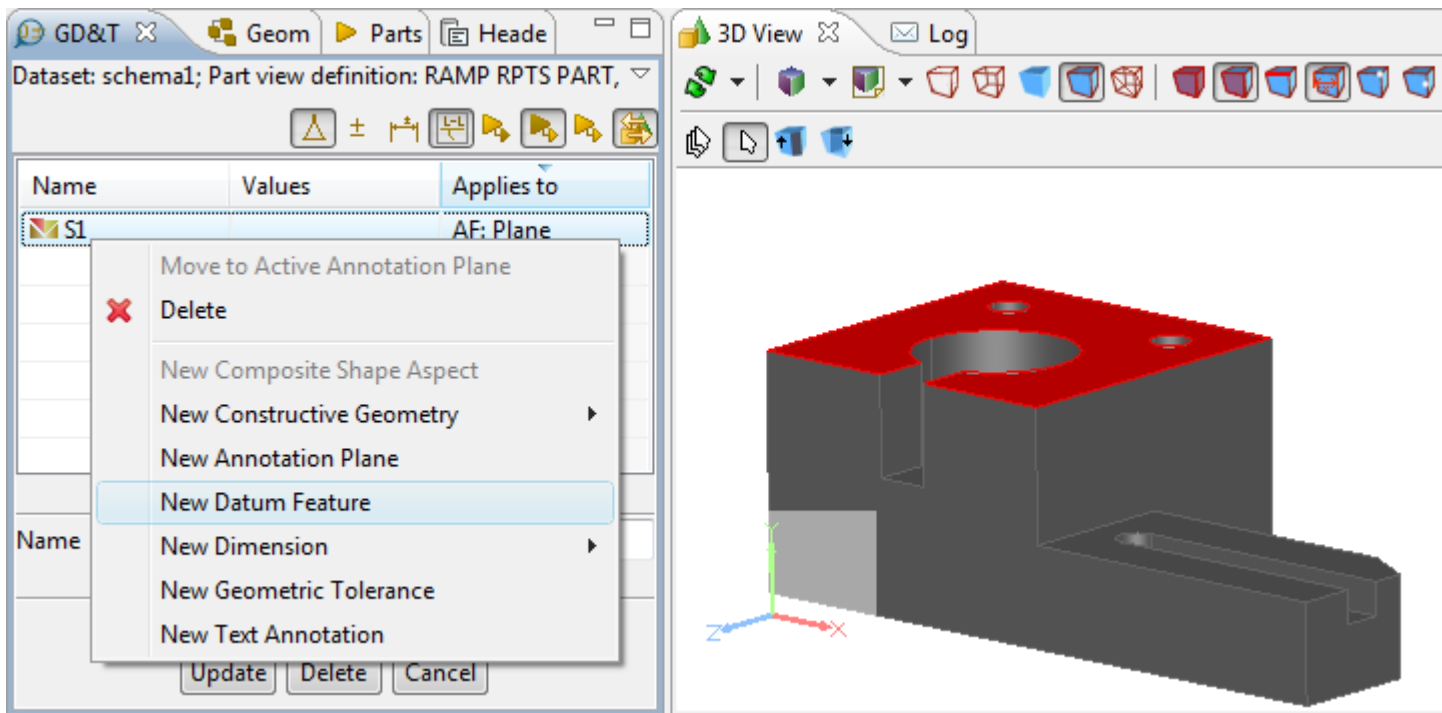

Figure 1. Shape aspect S1 in GD&T table to be defined as a datum feature A (wizard dialogue) and highlighted surface in 3D View
- Right click and select **New Datum Feature** item in the appeared context sensitive menu (see Figure 1).